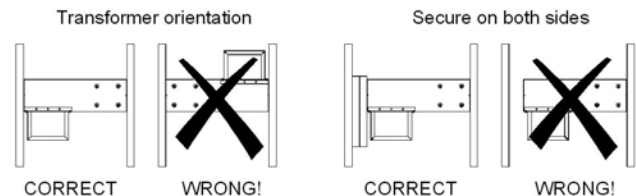

**Figure 2 – Wall housing location**
The wall housing fits between 16" on center (OC) studs, as shown in figure 2. If stud spacing is greater than 16" OC, nail additional sections of wood to provide the necessary support.